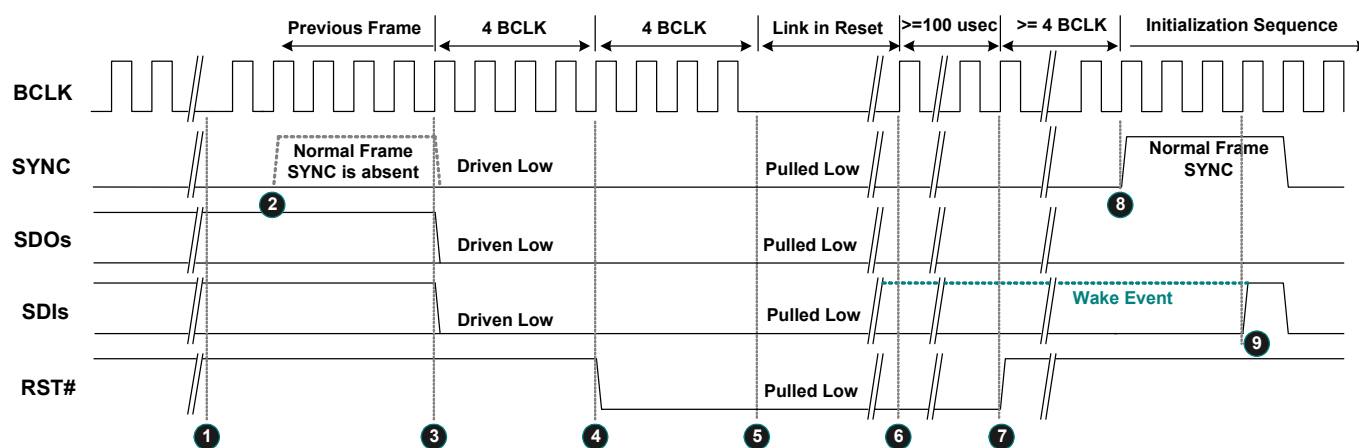

Figure 13. Link Reset Timing
3. Software initiates power management sequences. Figure 13, page 20, shows the ‘Link Reset’ timing including the ‘Enter’ sequence (❶~❺) and ‘Exit’ sequence (❻~❾)